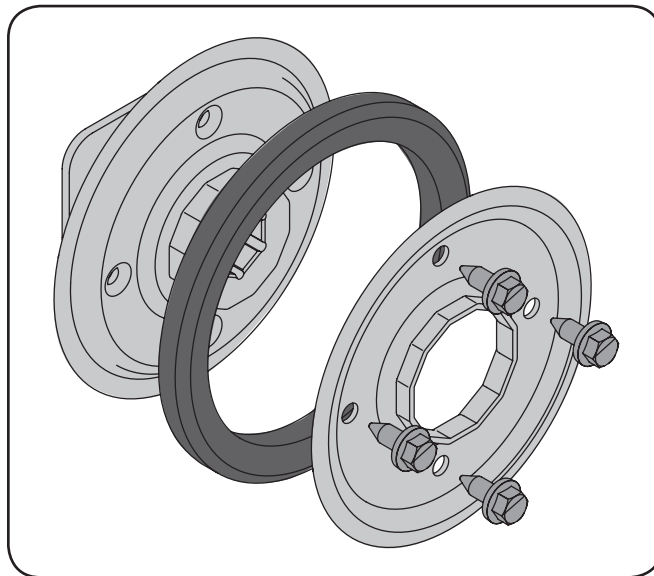

Figure 7-11
- Remove the four screws which secure the friction wheel's side plates together. See Figure 7-11.